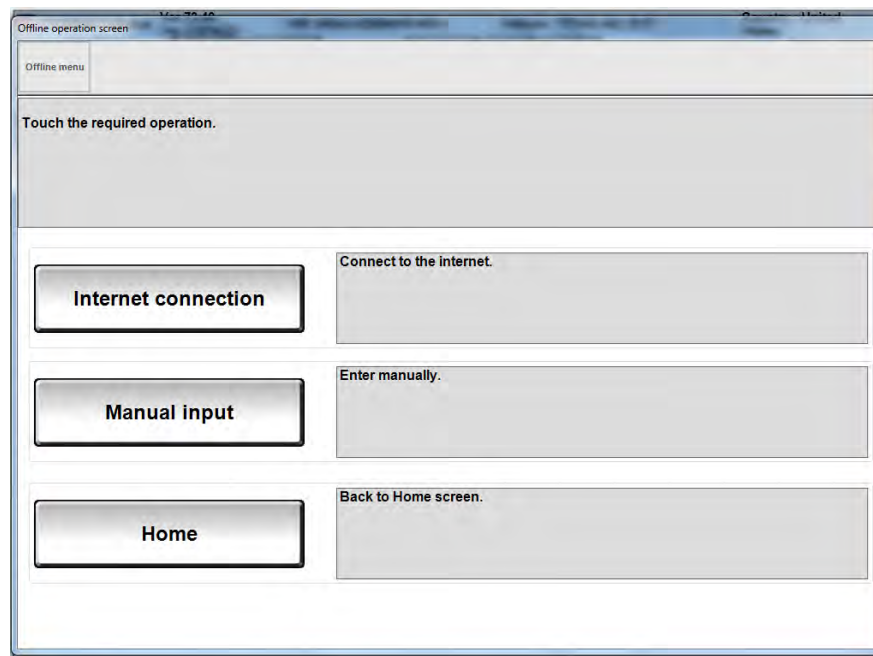

Figure 15
- If the CONSULT PC is not connected to the Internet, the screen in Figure 15 will display.